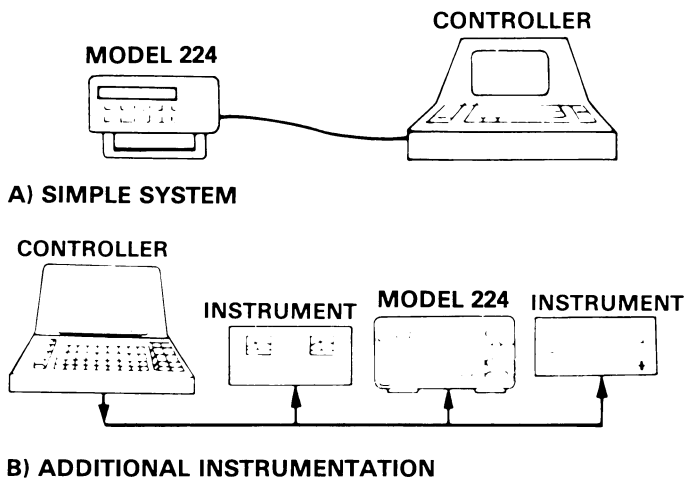

Figure 3-1. System Types
Figure 3-1 shows two typical system configurations. Figure 3-1(A) shows the simplest possible controlled system. The controller is used to send commands to the instrument, which sends data back to the controller.
The system becomes more complex in Figure 3-1(B), where additional instrumentation is added. Depending on program-